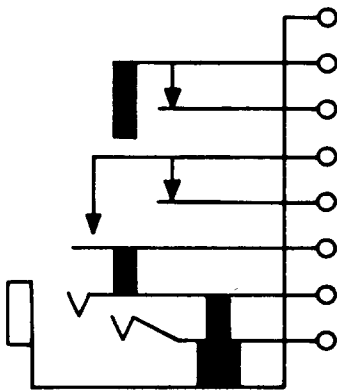

Fig. 5—458-Type Jack
2.05 458A, C, and CM: These single-mounted jacks (Fig. 5) are used with the 310 or similar-type plugs.